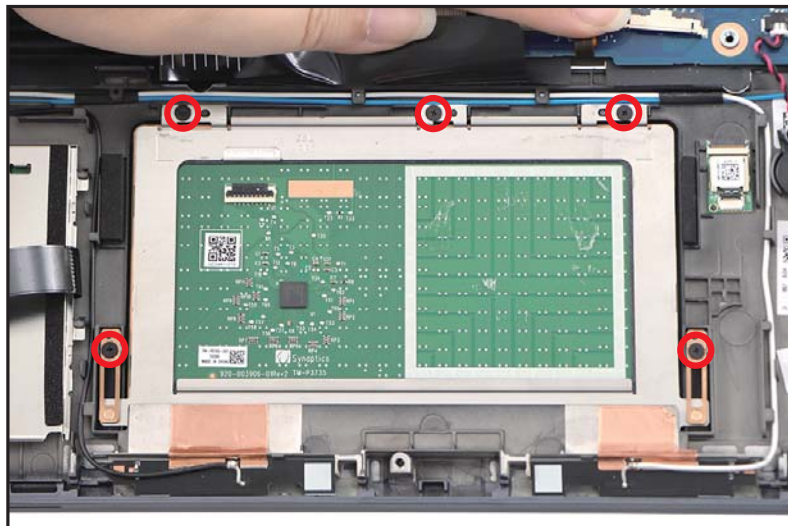

Figure 1-37. Touchpad Module Removal
8. Remove five (5) screws securing the arm brackets and touchpad module (Figure 1-37).